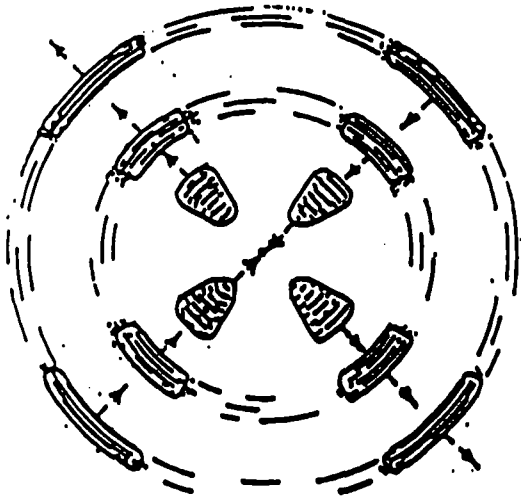

Fig. 4
1. Rotate the polarizer P_2 through 90° so that its polarization plane is parallel to that of P_1 . The central pattern on the screen will now consist of four dark areas disposed about the center and at an angle of 45° to the vertical and horizontal (Fig. 4).